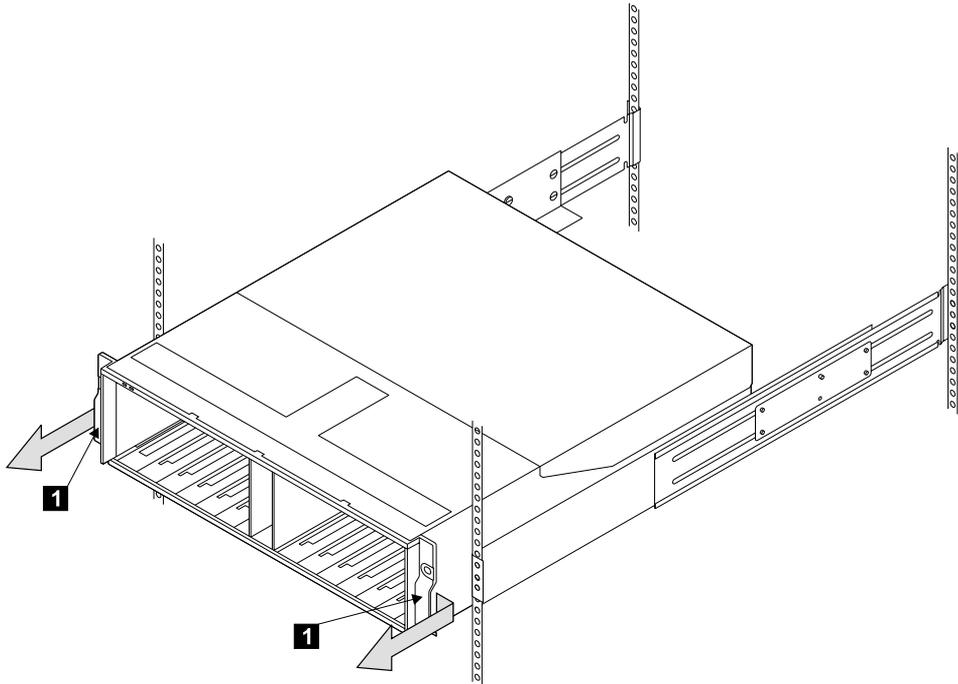

Figure 52. Removing the Frame Assembly from the Rack
Step 7. Refer to Figure 52.
**Attention:** When you remove the frame assembly from the desk side unit, ensure that you pull the *metal* brackets that are behind the plastic bezel (see Figure 52 on page 110). **Do not pull the bezel:** it will break.